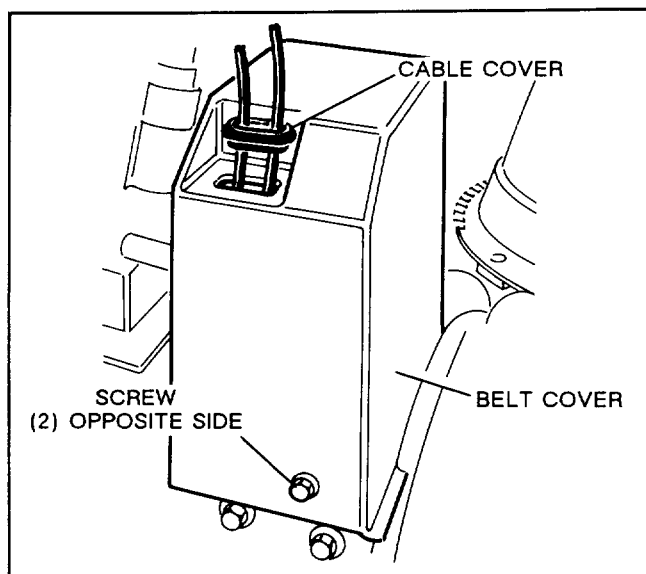

Figure 5
6. Remove three thread forming screws securing upper belt cover to engine base and slide cover up cables (Fig. 5). Do not lose cable cover.